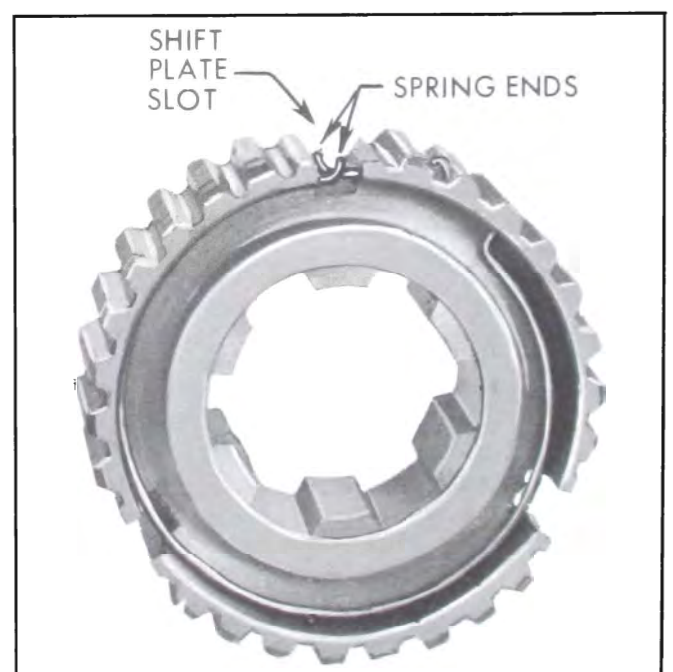

Figure 4-23—Installing Synchronizer Springs
1. Install springs solidly in recesses on both ends of synchronizer hub. One end of both springs should be located in same shift plate slot so that springs will extend in opposite directions from each other. Install shift plate directly over these ends. See Figure 4-23.